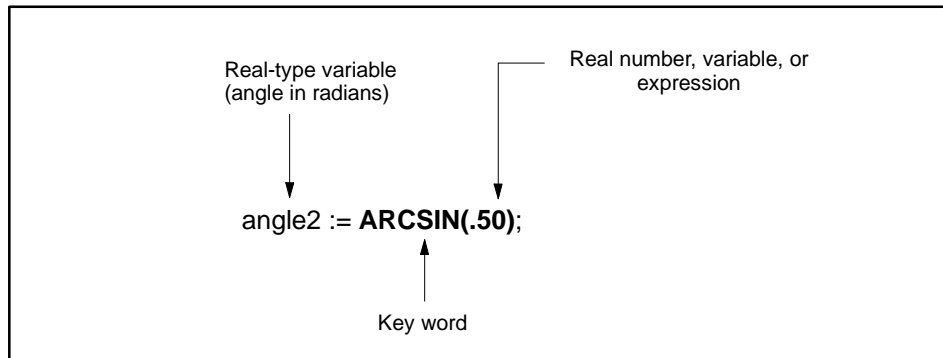

Figure 11-4 ARCSIN Function
- The returned value is a real number that represents the measure of an angle in radians. For example, in Figure 11-4, the value of the variable, **angle2**, is 0.52.